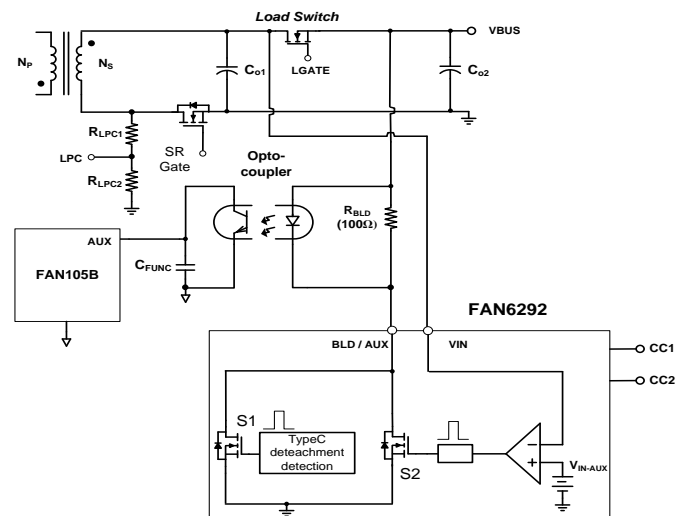

Figure 14 BLD/AUX Function Diagram
When the portable device is detached, BUS voltage should be discharged to zero within a short time to meet TypeC specification. FAN6292BMX/ FAN6292MX support bleeding function by turning on S1 for $T_{BLD-max}$ as shown in Figure 14. The amount of bleeding current through BLD/AUX pin can be controlled by the external resistor R_{BLD} shown in (1).